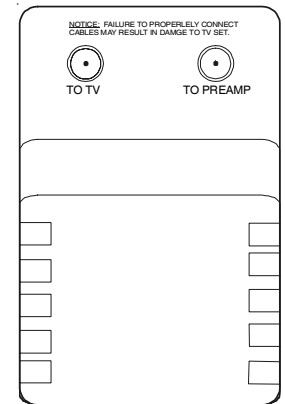

Figure 2
STEP 2. Attach "F" connector to download and connect to "F" jack on power supply marked "TO PREAMP". See Figure 2.
STEP 3. Attach "F" connector to cable from TV and connect to "F" jack on power supply marked "TO TV". See Figure 2.